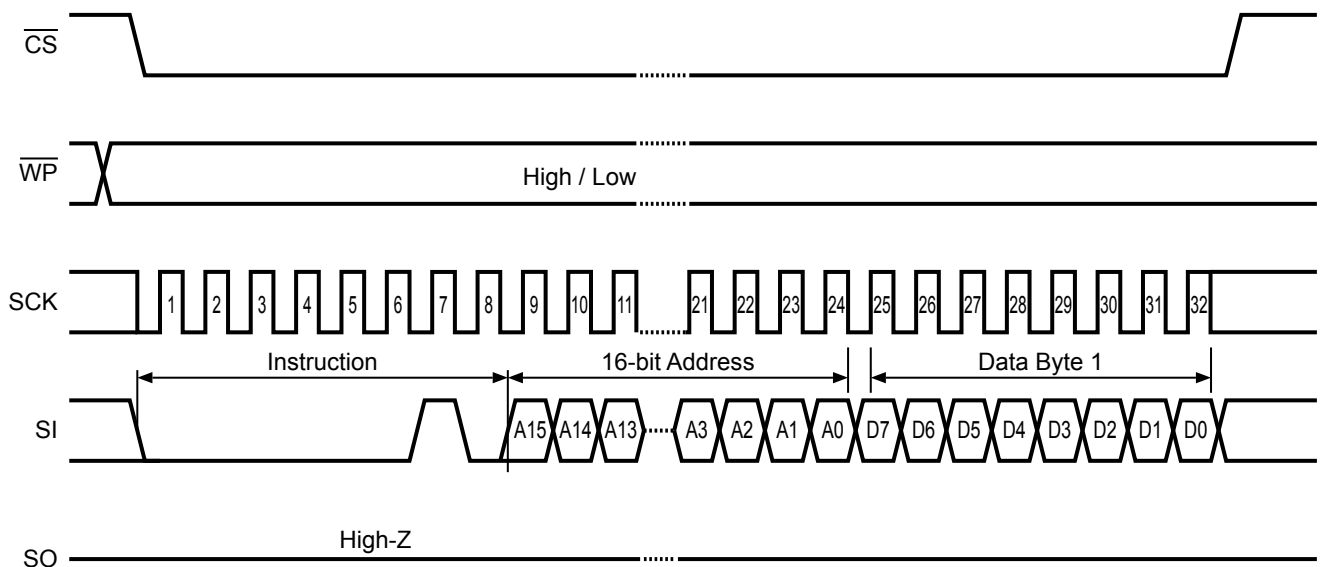

Figure 16 WRITE Operation (1 Byte)
Figure 16 shows the timing chart when inputting 1-byte data. Input the instruction code, the address and data from serial data input (SI) after inputting “L” to the chip select ($\overline{CS}$). To start WRITE (t_{PR}), set the chip select ($\overline{CS}$) to “H” after inputting data or before inputting a rising of the next serial clock. Bit WIP and WEL are reset to “0” when Write has completed.